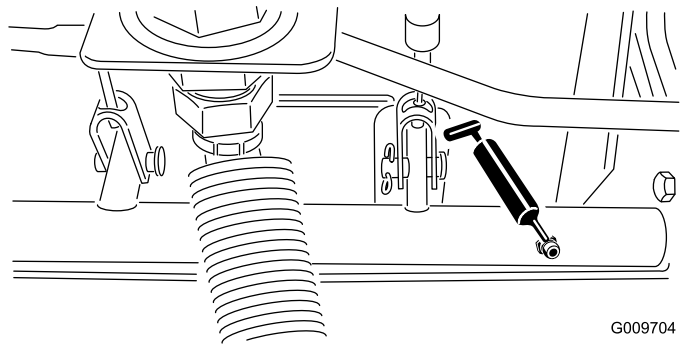

Figure 22
- Brake shaft pivot bearings (5) (Figure 22)